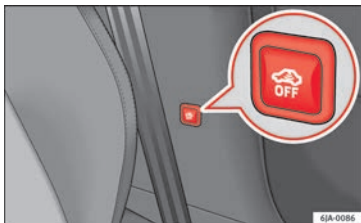

Fig. 41 Button for vehicle interior monitoring and the tow-away protection system.
- Press the  **Fig. 41** button on the centre column. The red backlit symbol  on the button turns orange.